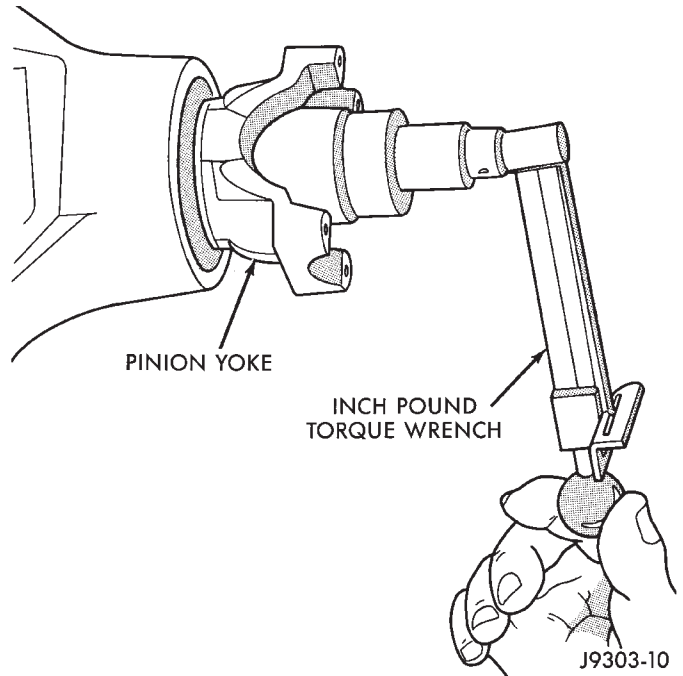

Fig. 14 Check Pinion Rotation Torque
(3) Install a new nut on the pinion gear. **Tighten the nut only enough to remove the shaft end play.**
(4) Rotate the pinion a minimum of ten times. Verify that the pinion rotates smoothly. Rotate the pinion shaft using a (in. lbs.) torque wrench. Rotating resistance torque should be equal to the reading recorded during removal, plus an additional 0.56 N·m (5 in. lbs.) (Fig. 14).